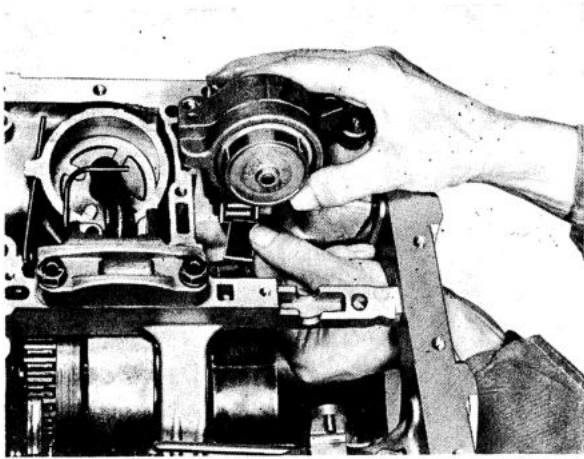

Fig. 4-104. Installing front servo and strut
- Place the front brake band in position, see Fig. 4-104. Stick the strut to the servo lever with vaseline.